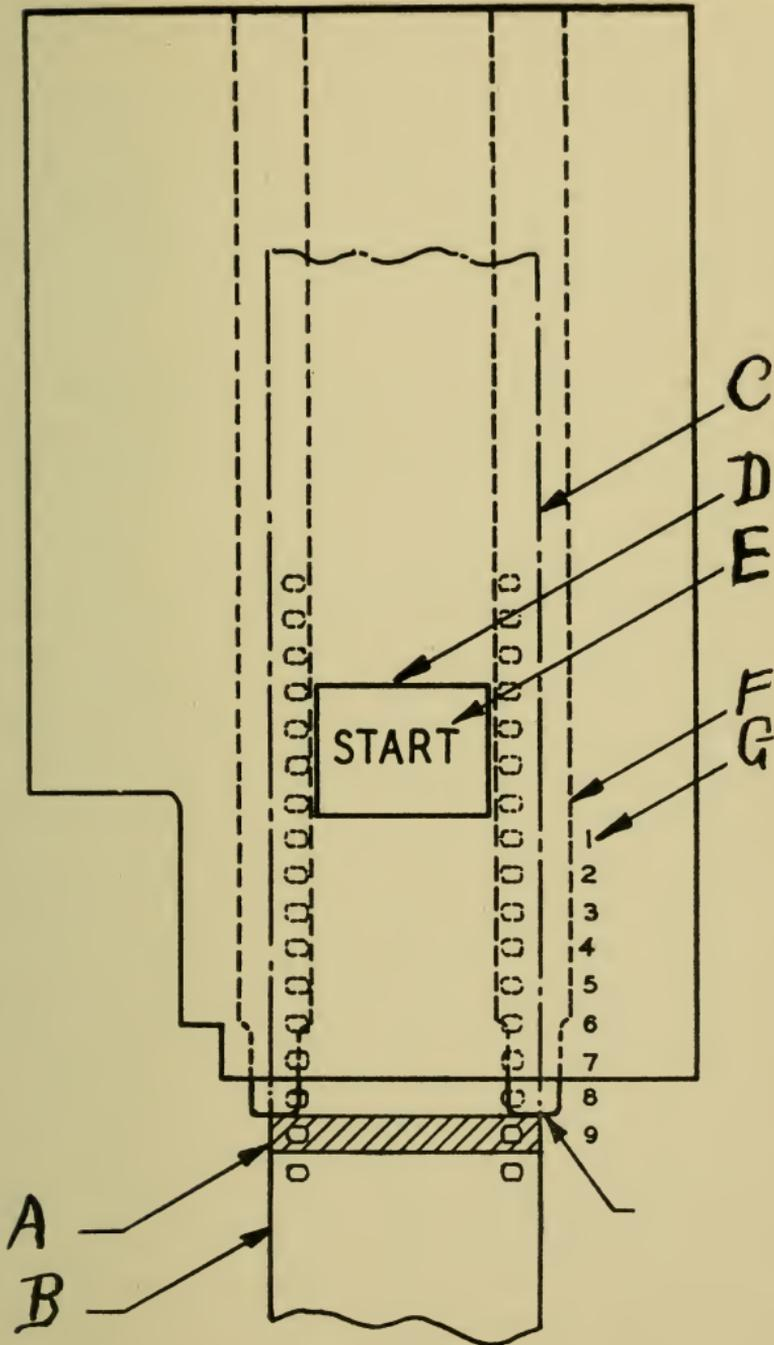

Figure 428.
(b) He will, when using a Simplex projector mechanism, locate starting marks as per Fig. 428. When film is received to which a good leader is attached, then he may cut off a piece of film, white leader or otherwise, one sprocket hole in length, and cement it to the leader in position A, so that its upper edge will come flush with lower edge of aperture plate when start frame is in proper position over aperture.
(2) Select the record to be used. **Check its number against the film number.** Check the number of times used, including this show. Don't neglect these things. Do your work **right.**
(3) Set the projector mechanism framing lever in mid position. Rotate the mechanism flywheel until the exact point at which the intermittent movement has ceased to act is ascertained—intermittent sprocket has ceased to move—and then thread in the film, as follows: At the beginning of each reel you will find a frame marked "**start.**" Place this exactly in frame over the aperture. In this connection see Fig. 428 and instruction (b), page 1171.